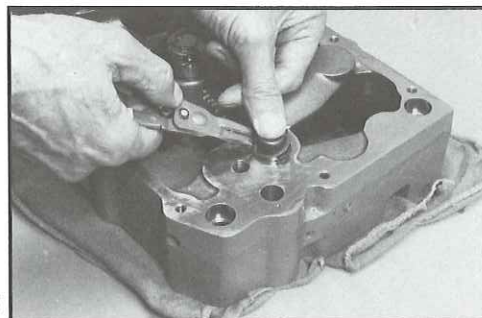

Fig. 22
2. Remove retaining ring using retaining ring pliers, as shown in Fig 22.